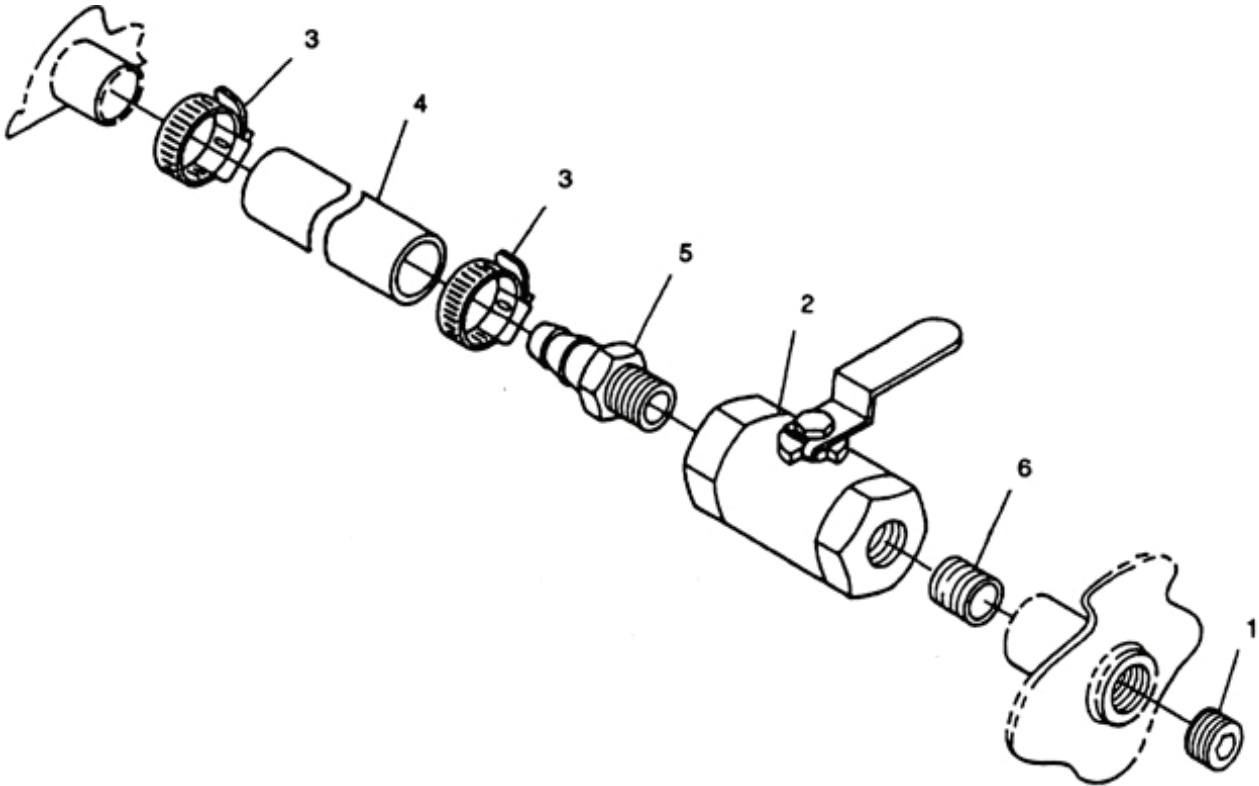

Figure 2-39. Oil Drain Line.
- c. Remove plug (1, Figure 2-39), open drain valve (2), and drain engine oil into suitable container.
- d. Remove clamps (3) and drain hose (4) from oil pan fittings and adapter (5).
- e. Remove drain valve (2) from skid fitting.
- f. Remove adapter (5) and pipe fitting (6) from oil drain valve (2).
- a. Install adapter (5, Figure 2-39) and pipe fitting (6) in oil drain valve (2).
- b. Install drain valve (2) on skid fitting.
- c. Install drain hose (4) on oil pan fittings and adapter (5). Secure with clamps (3).
- d. Ensure drain valve (2) is closed. Install plug (1) and service engine oil (paragraph 2-1.2.4).